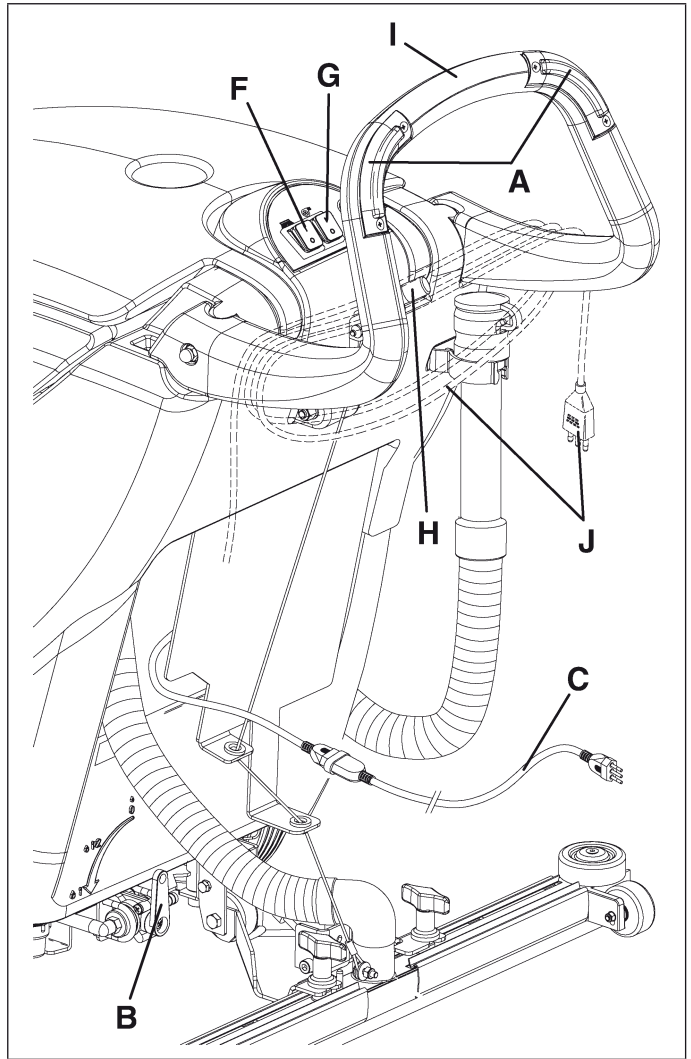

Figure 10
2. While keeping both hands on the handlebar (I, Fig. 10), move the machine and start scrubbing/drying the floor.
by releasing the switches (A, Fig. 10).*
releasing the switches (A, Fig. 10).*
3. If necessary, adjust the solution flow sent to the brush/pad by turning the lever (B, Fig. 10).
1. Turn the brush/pad rotation switch and the water vacuuming switch (F and G, Fig. 10) to the "0" position.
2. Disconnect the power supply cable plug (C, Fig. 10) from the electrical mains. Roll up the power supply cable on the handlebar into position (J).
3. Lift the squeegee by pushing the lever (H, Fig. 10) completely upwards.